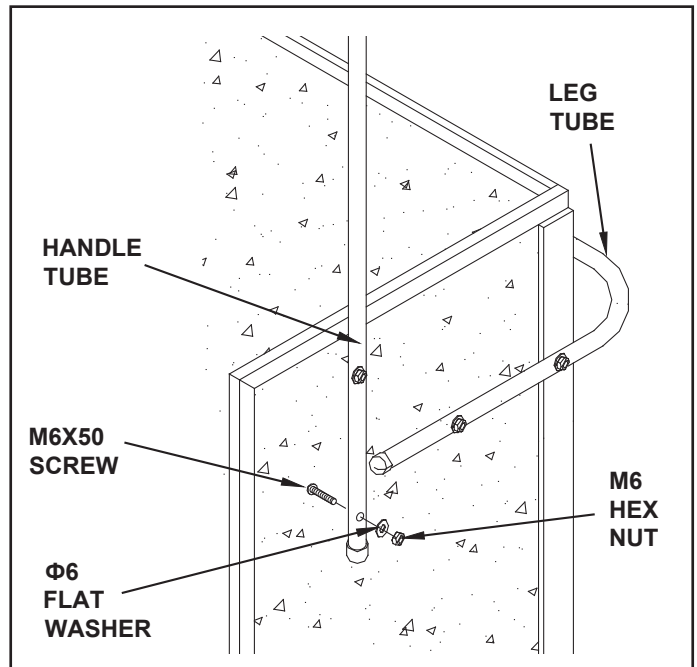

FIGURE 11
18. Place tube caps on the handle tube, then place it over the side panels and line up the four holes. Assemble four M6 x 50 screws through the side panels and handle. Secure with flat washers and hex nuts. See figure 11.